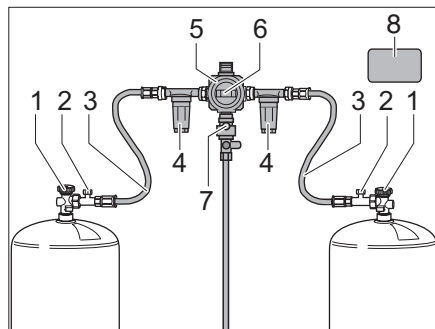
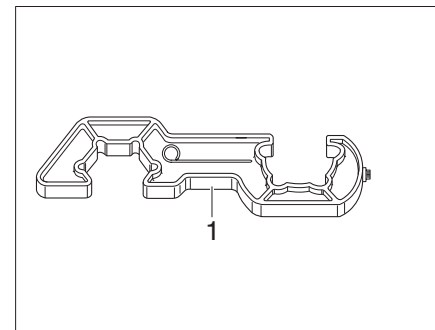

Fig. 131 Caramatic DriveTwo switching facility
Fig. 134 Screw aid
The Caramatic DriveTwo switching facility consists of a switching valve (Fig. 131,5) and the control unit (Fig. 132). The switching valve is mounted between the high-pressure tubes (Fig. 131,3). The rotary knob (Fig. 131,6) on the changeover valve can be used to determine which gas cylinder is used as the operating cylinder and which gas cylinder is used as the reserve cylinder. The changeover valve (Fig. 131,5) is equipped with the IceEx regulator defrosting system. This prevents damage to the gas system during the winter months.
A gas filter (Fig. 131,4) (optional) can be mounted on each side in front of the changeover valve (Fig. 131,5) to protect the gas system from oil contamination and soiling.
The regulator taps (Fig. 131,1) on the gas bottles must be opened manually.
The release button (Fig. 131,7) of the crash sensor is located under the switching valve.
- Open the regulator taps (Fig. 131,1) on the gas bottles.
- Use the rotary knob (Fig. 131,6) on the switching valve (Fig. 131,5) to select the gas cylinder from which gas is to be taken primarily (operating cylinder).
- Close the regulator taps (Fig. 131,1) on the gas bottles.
- Use the enclosed screwing aid (Fig. 134,1) to screw on and unscrew the high-pressure hoses. It ensures the necessary tightening torque and prevents damage to the screw connection caused by the wrong tool.
- Close the regulator tap (Fig. 131,1) on the empty gas bottle.
- Unscrew the high-pressure hose (Fig. 131,3) from the gas cylinder using the screwing aid (Fig. 134,1).
- Connect the full gas bottle to the high-pressure hose (Fig. 131,3).
- Open the regulator tap (Fig. 131,1) on the gas bottle.
- Set the knob (Fig. 131,6) on the switching valve (Fig. 131,5) with half a turn, so that the newly replaced gas bottle will serve as a reserve bottle.
- Press the button (Fig. 131,2) for the hose break guard at the high-pressure hose to activate it.
- If necessary, press the reset button (Fig. 131,7) on the crash sensor.
- For Caramatic DriveTwo systems, ensure gas is drawn in the direction of travel (see safety sticker (Fig. 131,8) in the gas compartment).
- After changing the gas bottle, press the green button (Fig. 131,2) on the high-pressure hose (Fig. 131,3) firmly.